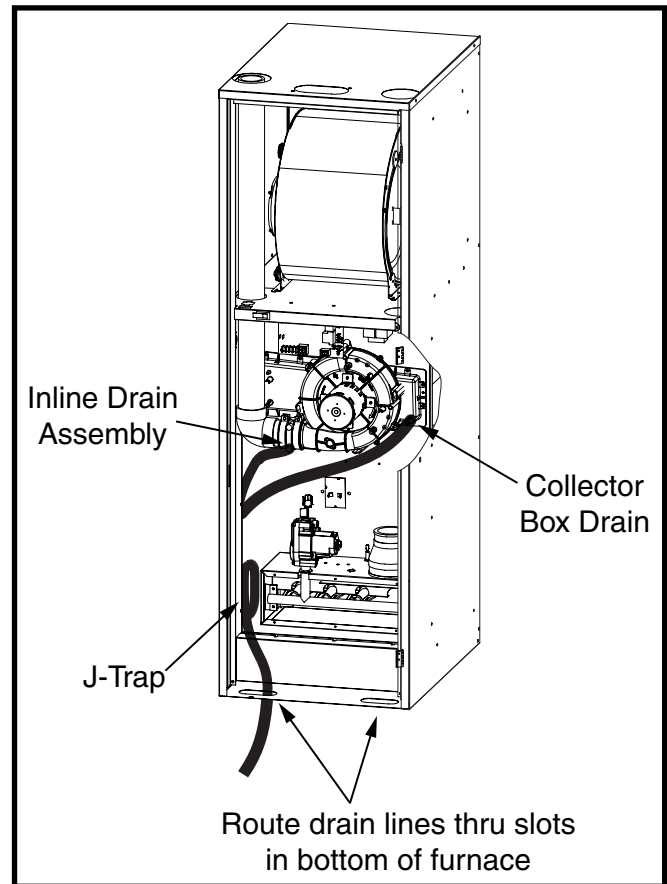

Figure 11. Condensate Drainage
The condensate drain may exit through the left or right slots in the bottom of the furnace(Figure 11). Make sure the flexible drain hose is not kinked.
1. Remove the collector box soft tube (Figure 11) and verify the exit from the collector box is clear of any debris or obstructions.